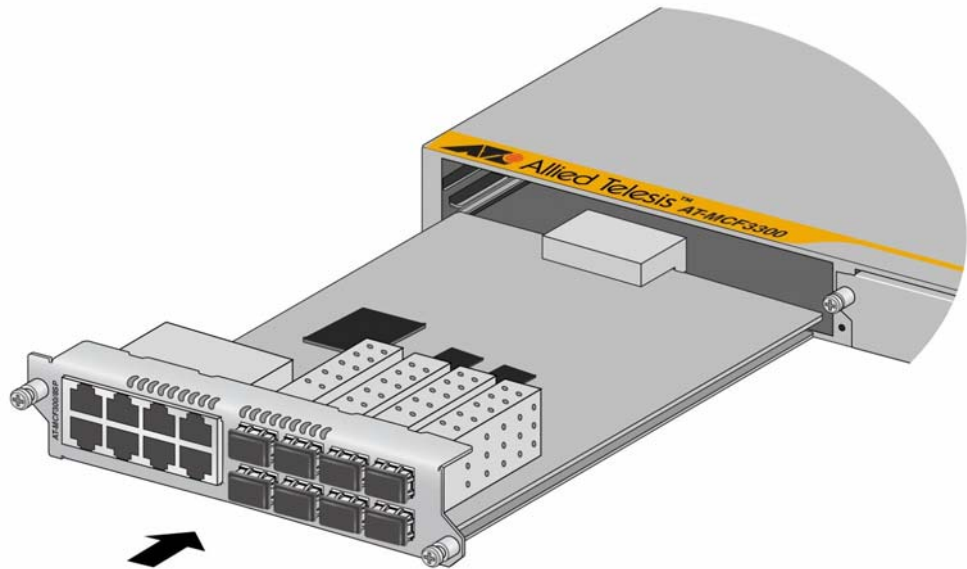

Figure 26. Sliding a Media Converter Module into the Chassis
4. Align the edges of the module with the guides in the slot and carefully slide the module into the chassis until it makes contact with the backplane connector in the chassis. Refer to Figure 26.